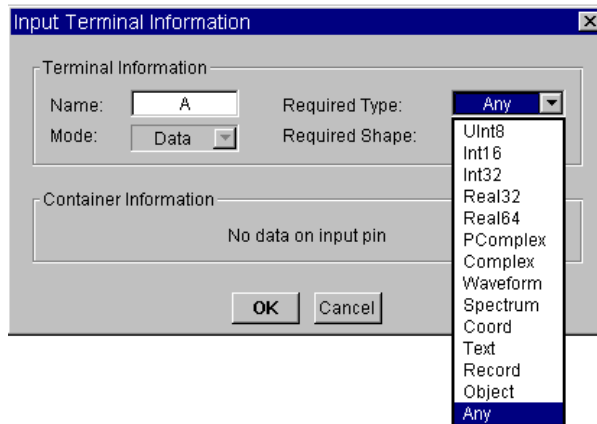

Figure 1-23. Using the Selection Field
- selection field** A field with a white background that has an arrow on its right-hand side. Clicking the field or its arrow displays a **drop-down list**. For example, if you click Any (or the arrow) in the Required Type field, you can select another data type from the list by clicking the list as shown in Figure 1-23.